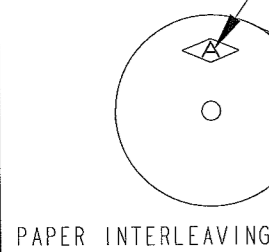

FIGURE 1
- FOR PIGTAIL SPLICES USED IN A BENCH APPLICATOR, ADD SUFFIX "PP" TO PART NUMBER (i.e. 3800S 75A-6PP), SEE FIGURE 1 FOR REELING.